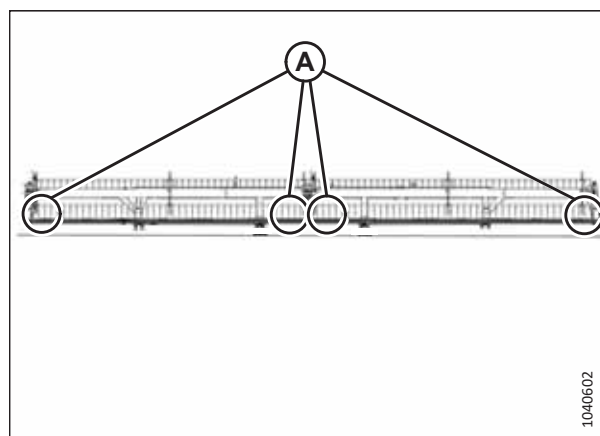

Figure 8.33: Double-Reel Measurement Locations
- Figure 8.33, page 227 – double-reel